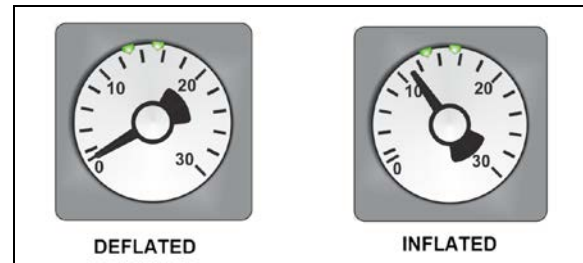

FIGURE 43: INFLATABLE SEAL PRESSURE GAGE
4. Finally, the inflatable seal can be re-inflated by turning the shut-off valve handle counterclockwise. Check the pressure gage on the inflatable seal regulator to see if the pressure increases to around 11 psi (Figure 43). Needle should be pointing between the two small green arrows on the dial.
on the inflatable seal regulator to see if the pressure is increasing to 11 psi (Figure 43).